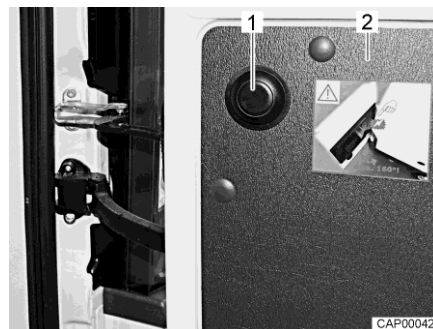

Fig. 15 Push button to release the limitation
- Open the rear door (Fig. 15,2) as far as it will go.
- Press the push button (Fig. 15,1), hold rear door and continue opening carefully.